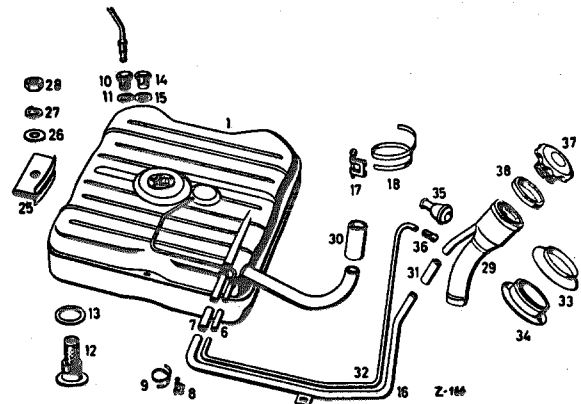

Fig. 47 — 1/2
4. Take off the hose clamp (17) at the fuel filler neck and disconnect the hose (30) from the filler neck (Fig. 47 — 1/2).